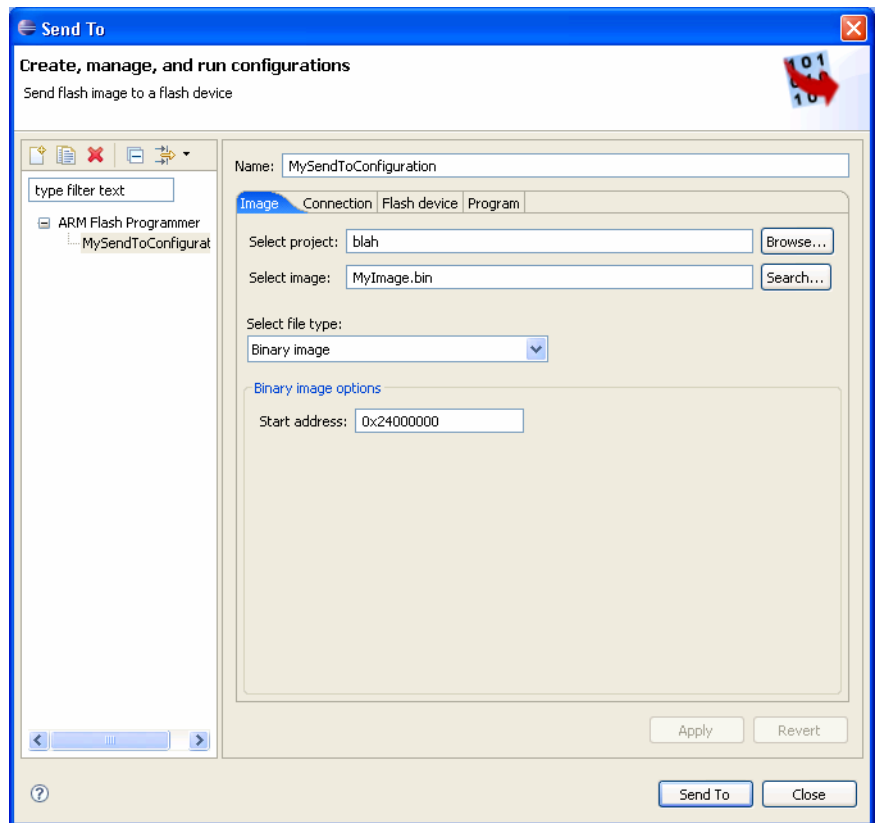

Figure 10 Editing a send to configuration
2. Select **Send To** → **Send To...** from the menu. The **Send To** dialog opens (see Figure 10 on page 17).